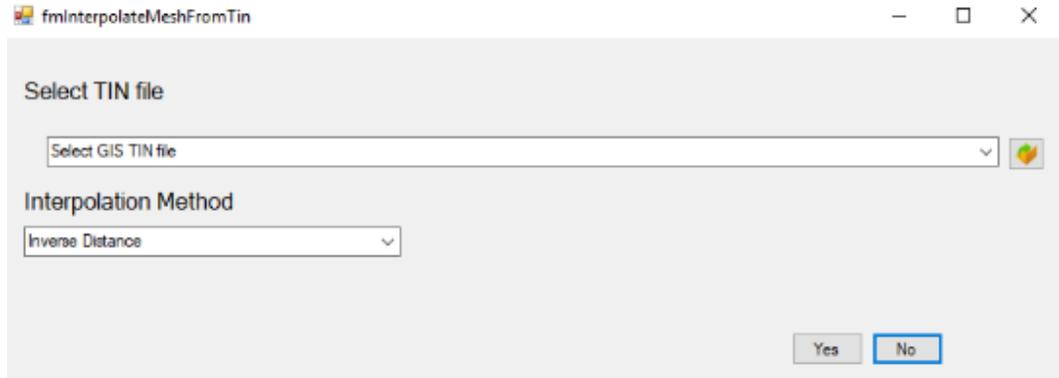

Figure 3-27. Interpolate mesh elevations to GIS TIN.
1. Select Mesh>Interpolate Mesh Elevations to Survey Points to GIS TIN. A form will appear (Figure 3-27).